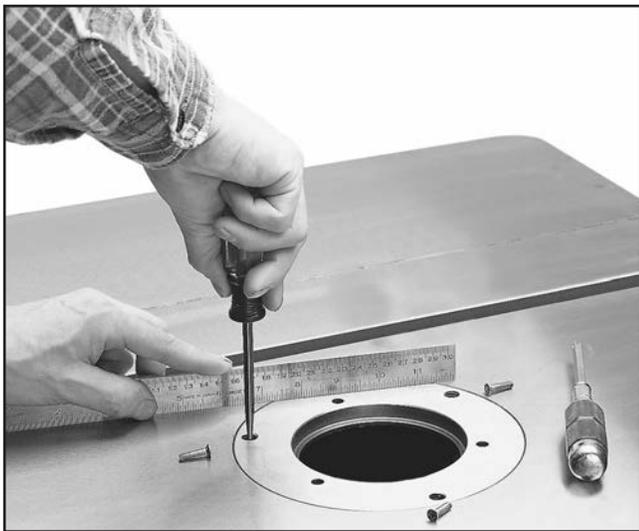

Figure 28. Leveling table insert.
2. Using a straightedge and a screwdriver, turn the barrel screws clockwise or counterclockwise to level the larger table insert with the table (**Figure 28**).